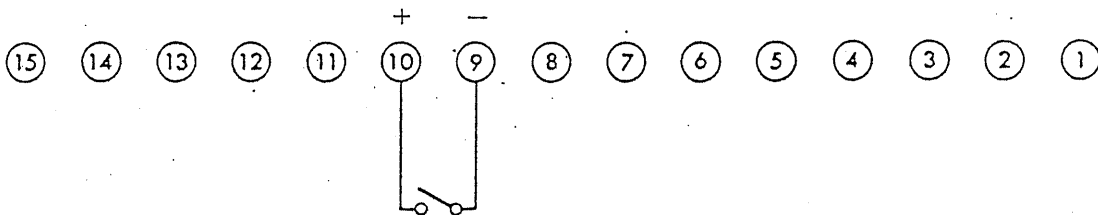

Figure 2-13-1
1. As shown in Fig. 2-13-1, connect the external load switch between terminals 9 and 10 on the terminal board. The switch capacity should be around 125 V AC at 1 A.